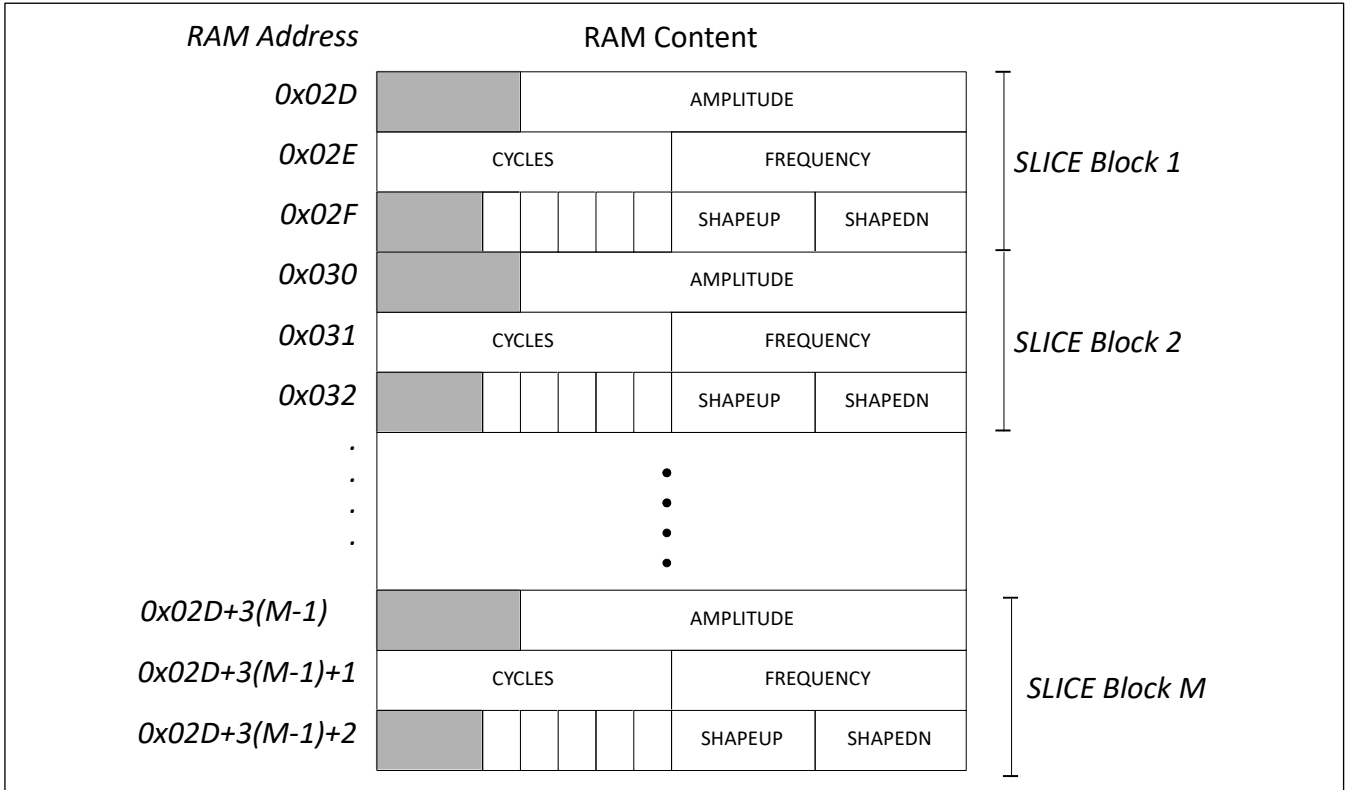
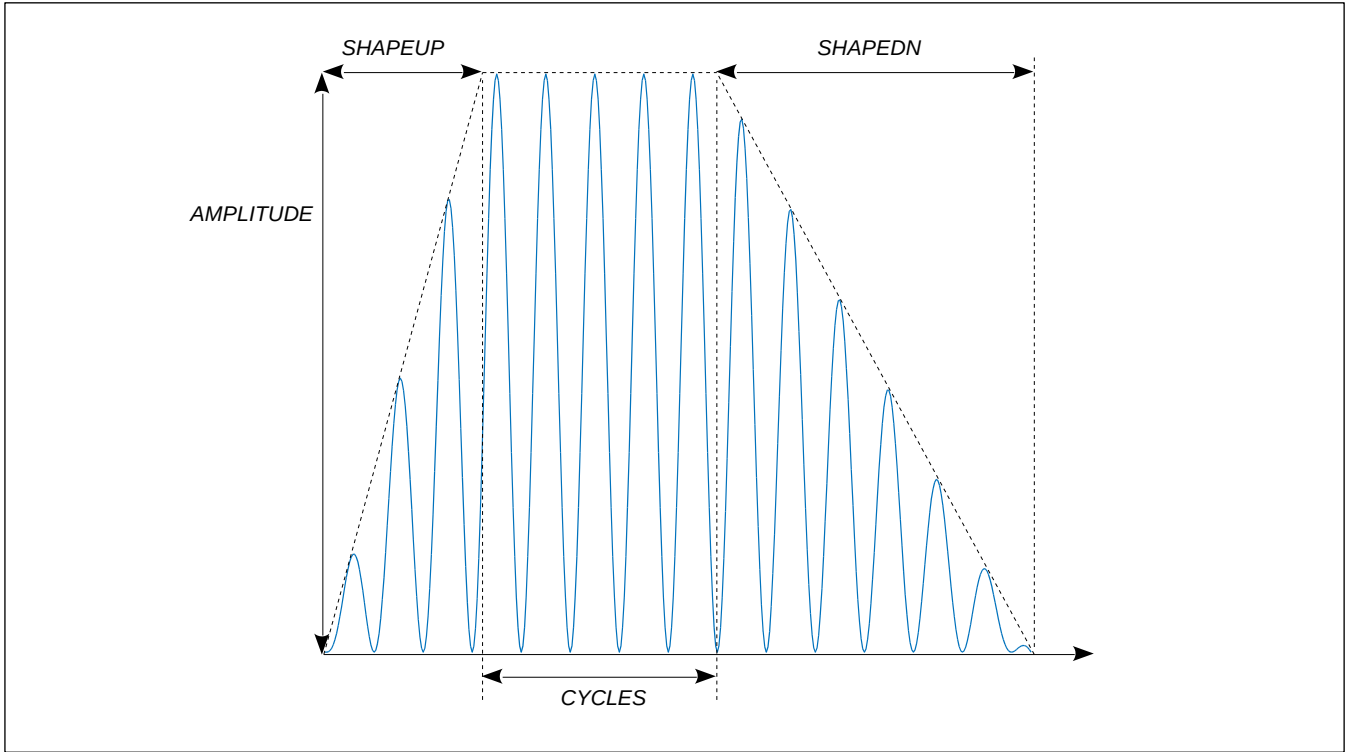

Figure 23: Sine wave SLICE parameters illustration
Figure 24: Sine wave SLICE parameters illustration
- 1) SLICES, written in the RAM using the RAM ACCESS command. Each SLICE contains a group of parameters used to produce a sine wave of defined amplitude, frequency, and number of cycles. It may also be ramped up and down (as shown in Figure 24). See section 6.8.1 for more details.
SLICE blocks in RAM contains the parameters used to synthesize sine waveforms. Each SLICE block contains three words grouping all parameters needed as described in Table 15. Figure 23 shows an example on how several SLICES can be organized in RAM. Figure 24 illustrates an example of how these parameters shape a SLICE waveform. Many SLICES may be successively played to form more complex waveforms.